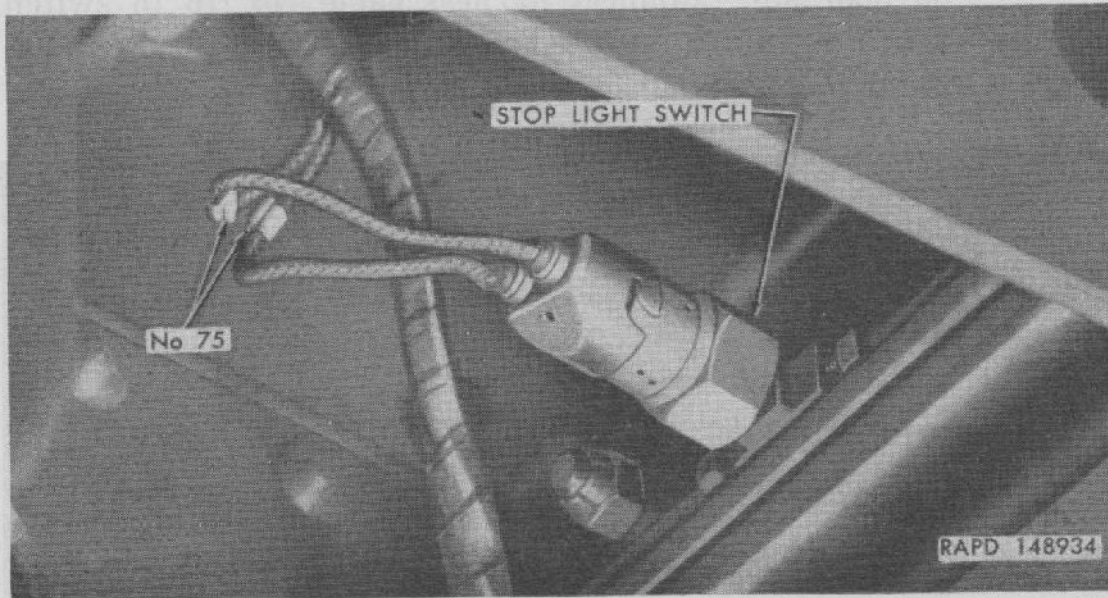

Figure 94. Stop light switch installed.
a. GENERAL. Hydraulically-operated stop light switch is connected into hydraulic brake line at frame right side rail ahead of right air tank (fig. 94). When brakes are applied, hydraulic pres-
b. **STOP LIGHT SWITCH REMOVAL** (fig. 94). Disconnect wiring harness connector from stop light switch terminals. Unscrew switch from tee fitting in hydraulic brake line. *Do not apply brakes with stop light switch removed.*
c. **STOP LIGHT SWITCH INSTALLATION** (fig. 94). Thread switch into tee fitting in hydraulic brake line and tighten firmly. Connect wiring harness connector (cables No. 75) to switch terminals. Bleed brakes (par. 219).